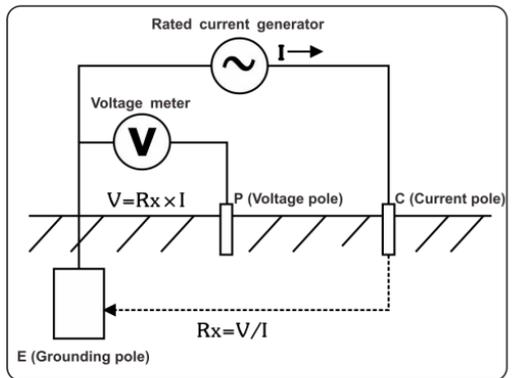

Figure3
①.Voltage to earth measurement use the average value rectification method
②.The earth resistance measurement use the rated current pole changing method, that is, the rated AC current  $I$  (20mA Max) flows between the measured object  $E$  (grounding pole) and  $C$  (current pole); the potential difference  $V$  between  $E$  and  $P$  (voltage pole) is calculated, and then the earth resistance  $R_x$  is calculated. As shown Figure 3.